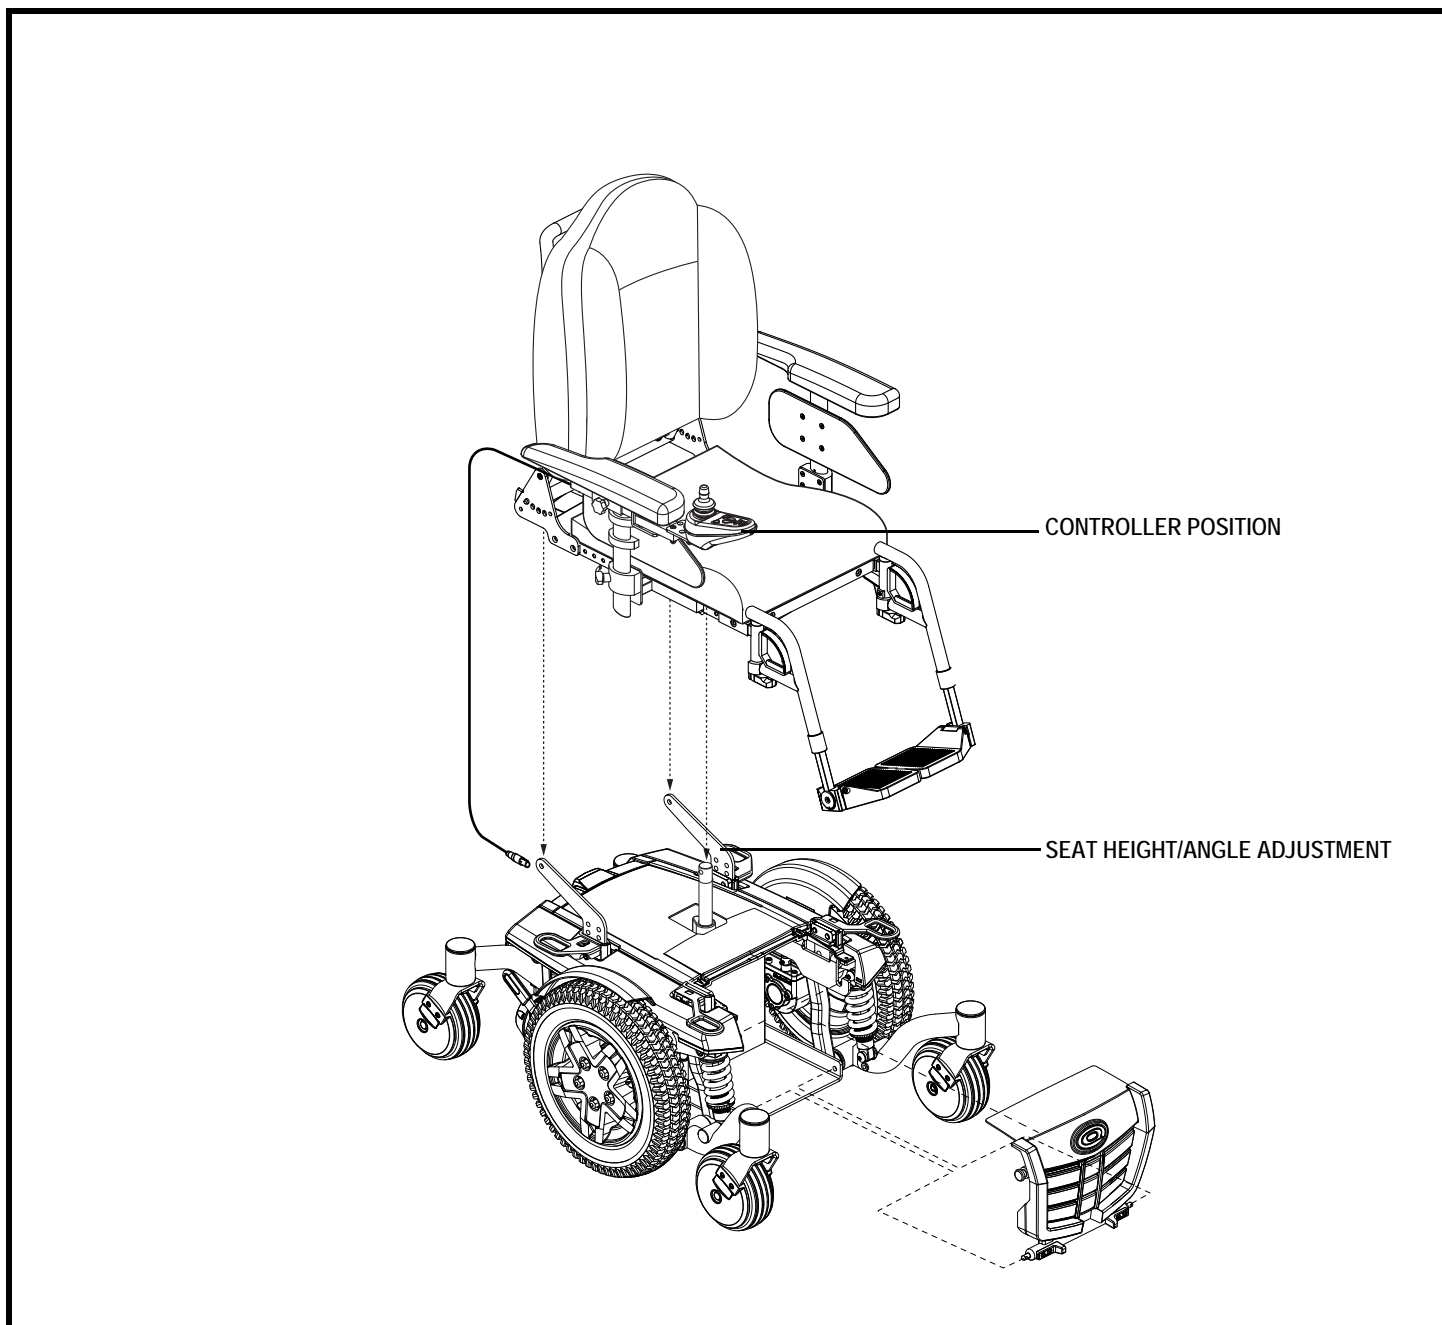

Figure 6. Quantum Q4 Assembly View
Your power chair may require some assembly either before initial use or after transportation. It may also require disassembly to make some comfort adjustments. **Figure 6** details those parts of the power chair that are designed to be disassembled and assembled by an end user or by a qualified caregiver before using the product or making comfort adjustments.
3. Install the controller and route the harness to the back of the power base. **See figure 6.**